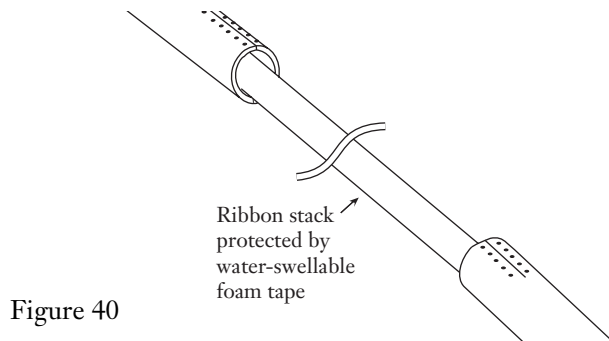

Figure 40
7.27 Follow the UAT instructions for accessing the ribbons. After using the UAT III the final result should resemble (Figure 40).